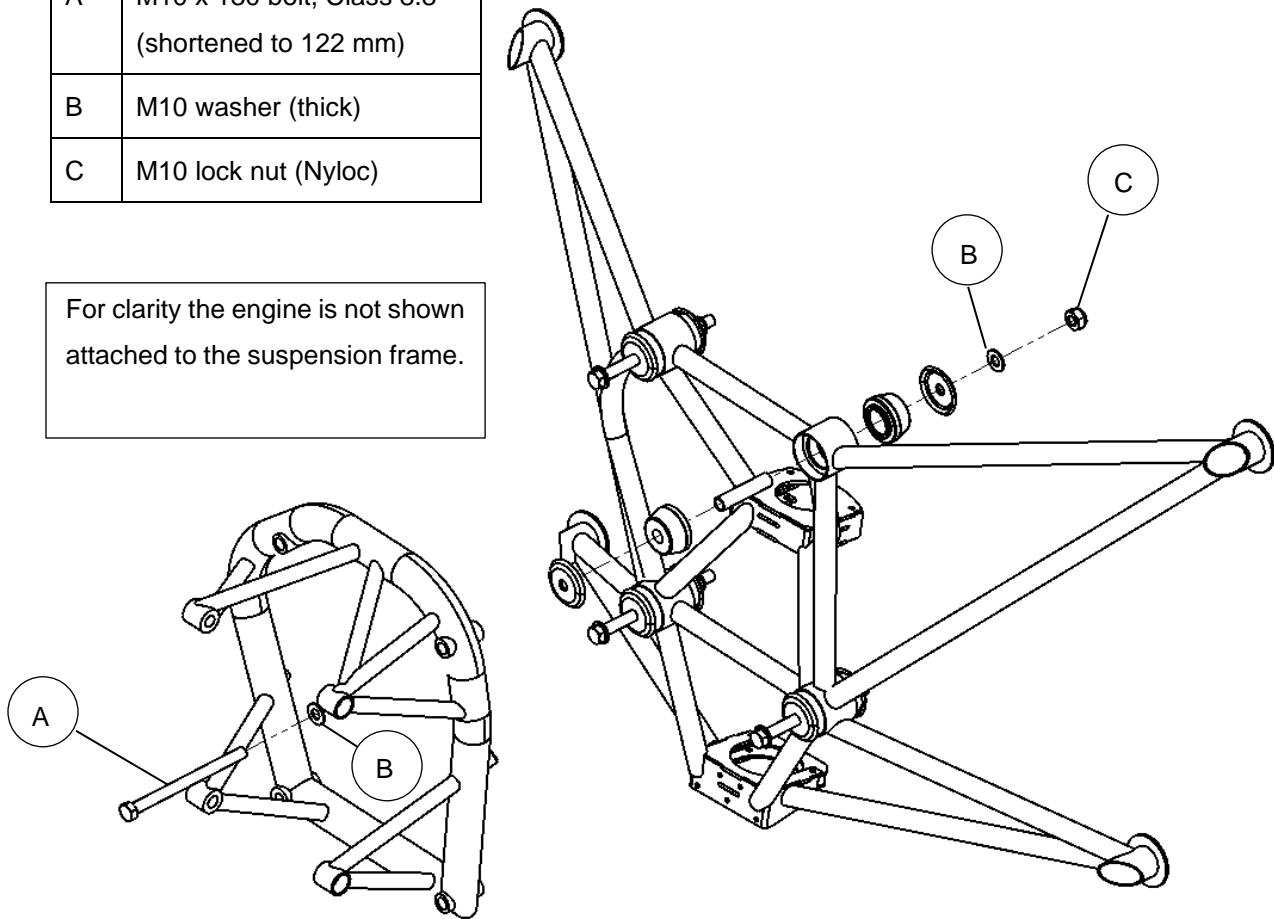

Figure 46: Engine installation (912 ULS, 912 iS)
- Note that all the mounting bolts are installed with the bolt heads facing forward. Observe correct placement of washers, spacers / bushes and vibration dampers (refer to Figure 46).